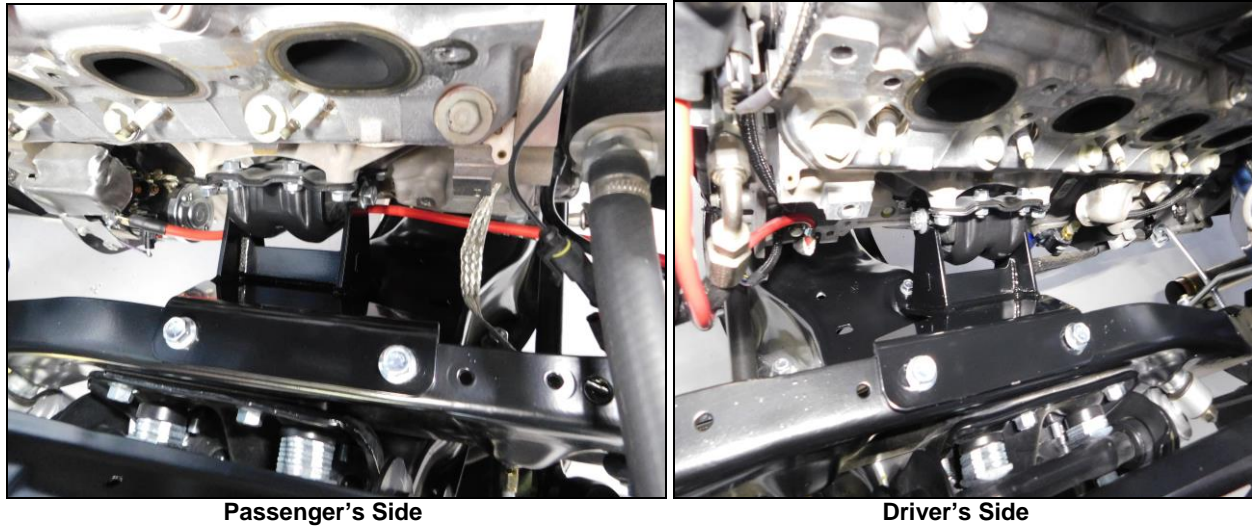

Figure 1
2. Attach the Hooker engine mounting brackets to the frame (**Figure 1**) using the supplied 3/8" hardware, leave the hardware loose at this time.